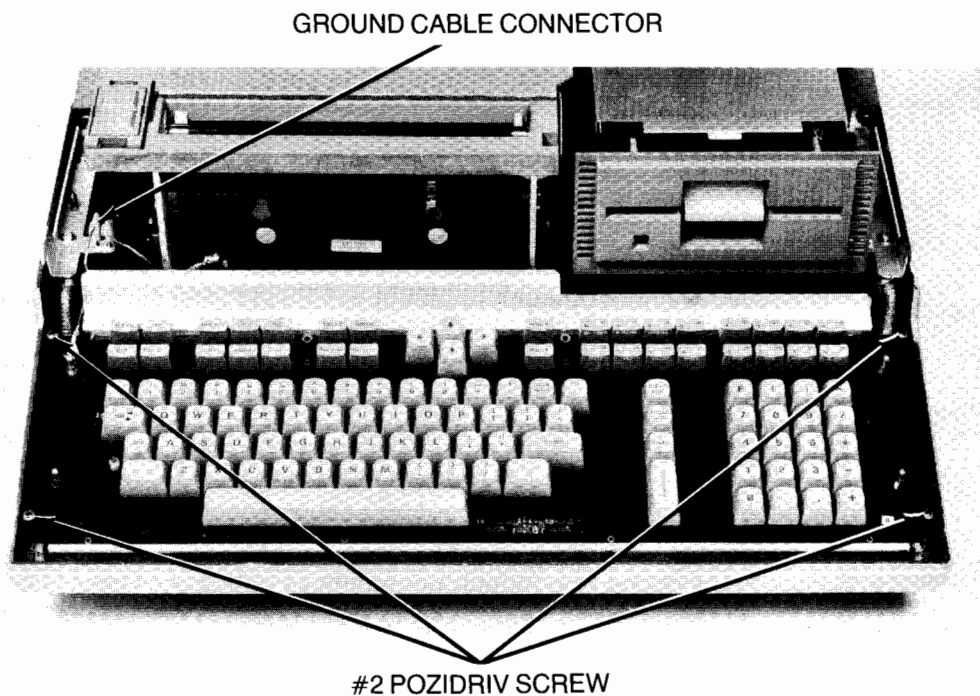

Figure 4-30. Releasing Keyboard
3. Disconnect ground strap connector at top left of keyboard from lug on computer (Figure 4-30).
4. Loosen four #2 Pozidriv captive screws that attach keyboard to computer (Figure 4-30).